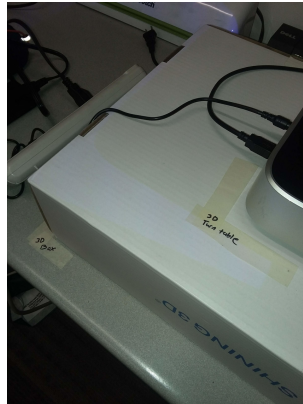

Figure 3: The spike marks for the box are on the desk while those for the turn table are on the box.
2. On the desk, near the back wall of the shoe office, the exact location of all equipment is marked with spike tape. Place the box for the 3D scanner in its marked place (Figure 3).
3. Obtain the "Shining 3D" turn table and place it in its marked place, on the 3D Scanner box (Figure 3). There will be two black cords that came with the turntable. The first will have a USB on one end and a connector for the turntable on the other. plug the connector into the turntable and the USB into the computer. Secondly, connect the black power cord to the turntable and then into the wall. A power strip may be necessary to reach an outlet.